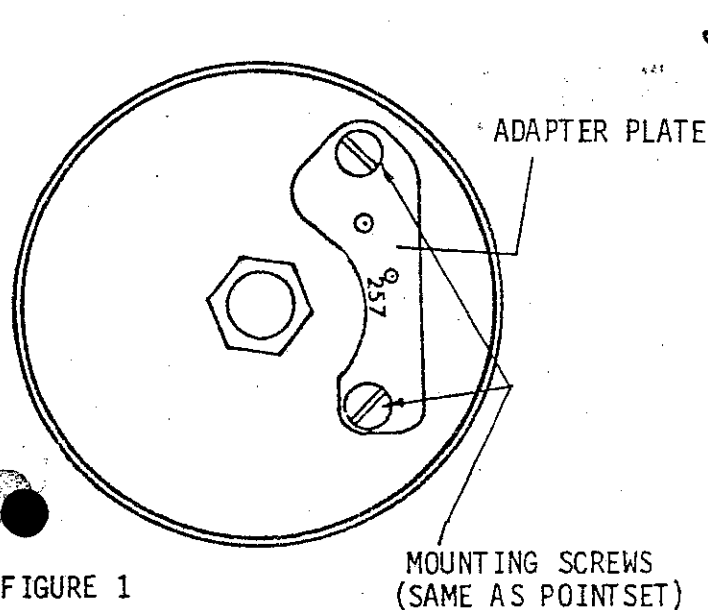

FIGURE 1
5. Securely mount magnetic adapter plate to distributor base plate, using existing mounting holes previously occupied by contact set. Replace hold down screws. (see figure 1).